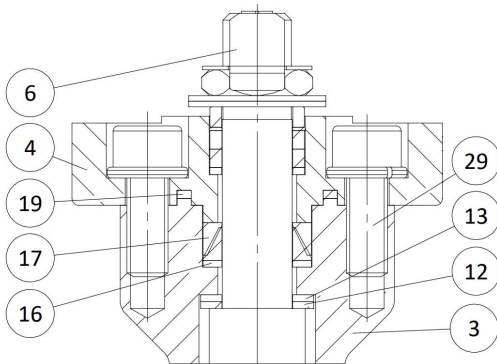

Figure 2 – Stem, extension and iso flange assembly
1. Assemble the bearings (12,13) into the stem (6) and place the pin (14);
2. Insert the stem (6) into the extension (3) and hold it to prevent damage;
3. Place the washer (16), the packing (17) into the extension (3);
4. Place the seal (19) into the iso flange (4) and tighten with the bolting (29) according to Table 3 – Packing bolting system Torque [Nm]. After tightening verify that the iso flange (4) is completely in contact with the extension as shown in Figure 2 – Stem, extension and iso flange assembly It may be required to press down the iso flange and re-tighten to ensure the correct position of the iso flange (4);